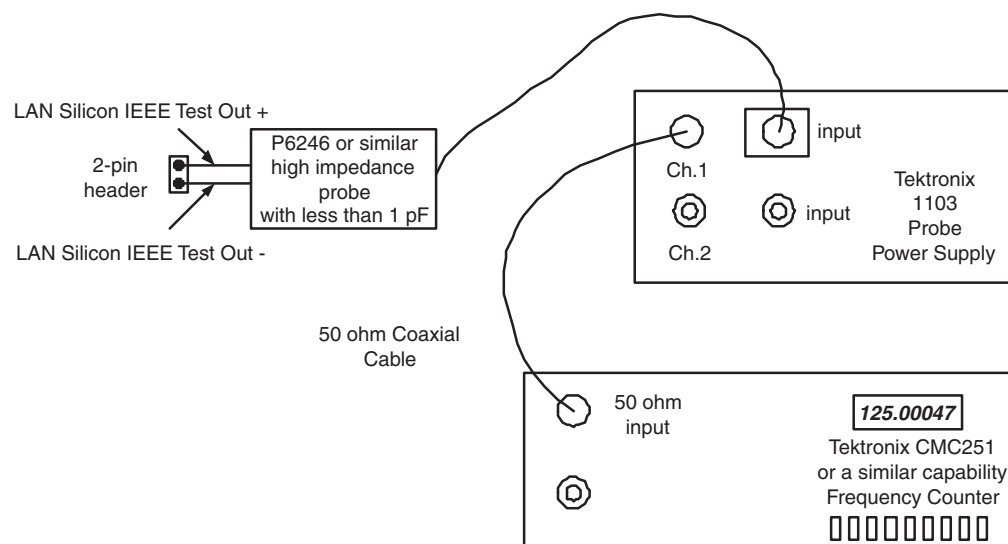

Figure 11. Indirect Probing Setup
Almost all Intel LAN silicon that support 1000BASE-T Ethernet can provide a buffered 125 MHz clock, which can be used for indirect probing of the transmitter reference clock. The buffered 125 MHz clock will be a 5X multiple of the crystal circuit's reference frequency (Figure 11).
2. Connect the test equipment as shown in Figure 11.
4. Enable the 125 MHz buffered reference clock. An example can be found in Appendix B, “GigConf.exe Register Settings for 82547GI(EI) Devices”.